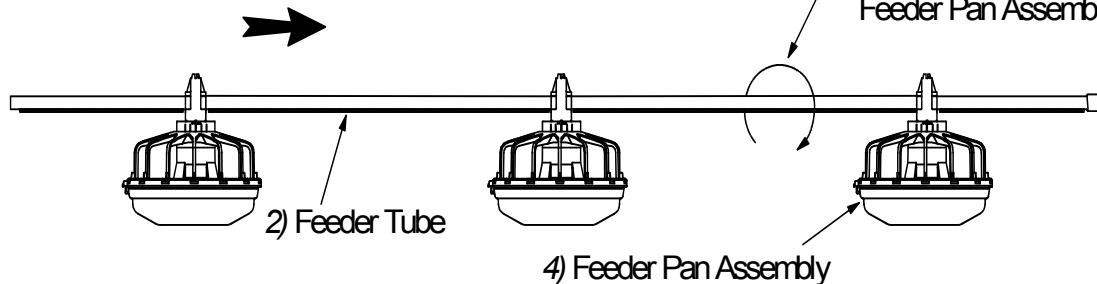

Figure 25. Assemble Feeders on tubes
1. Rotate the auger tubes so that the seam is down, this holds the Pan Assemblies in place on the tubes. See **Figure 25.**